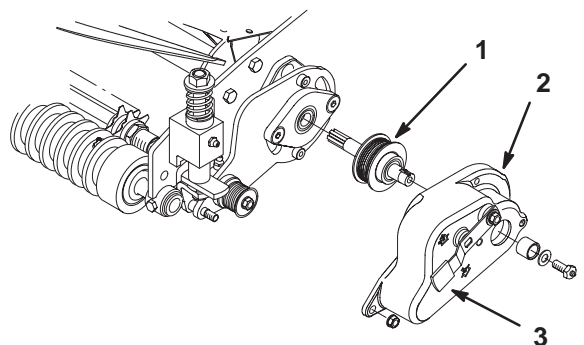

Figure 20
1. From the drive side of the cutting unit, remove the groomer drive cover housing, drive belt, driven pulley nut and pulley, key, and spacer (Fig. 20).